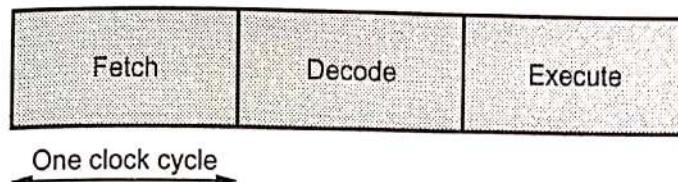

Fig. 2.5.3 Three stage pipelining
4. Pipelining : Pipelining increases the speed of the processor. Simple pipelining is three stage pipelining. In three stage pipeline, stages are fetch, decode and execute. Fig 2.5.3 shows three stage pipeline.